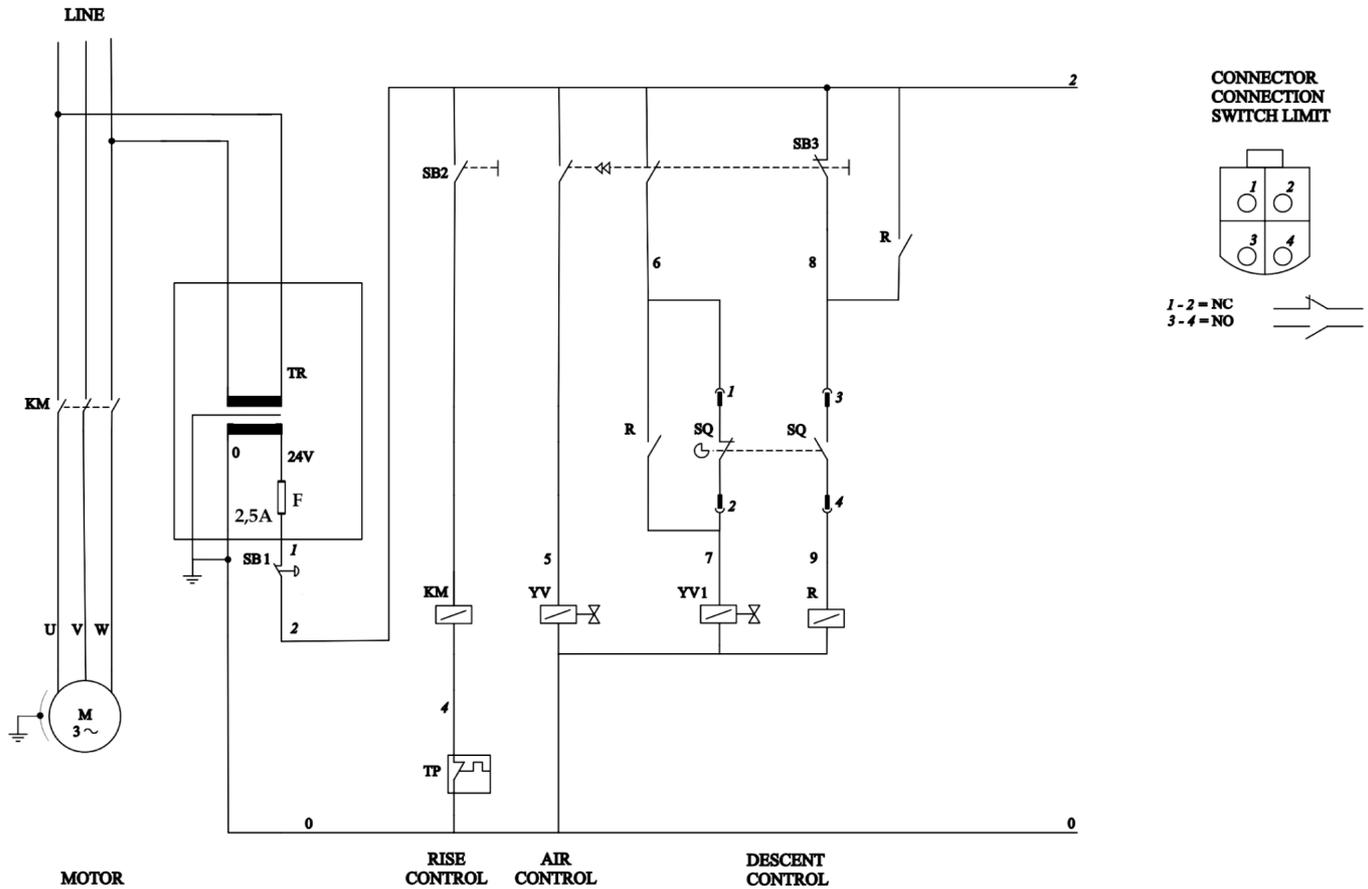

Figure 1.6 Electrical diagram
**Note!** The electrical connections are shown in the circuit diagrams in Figure 1.6.